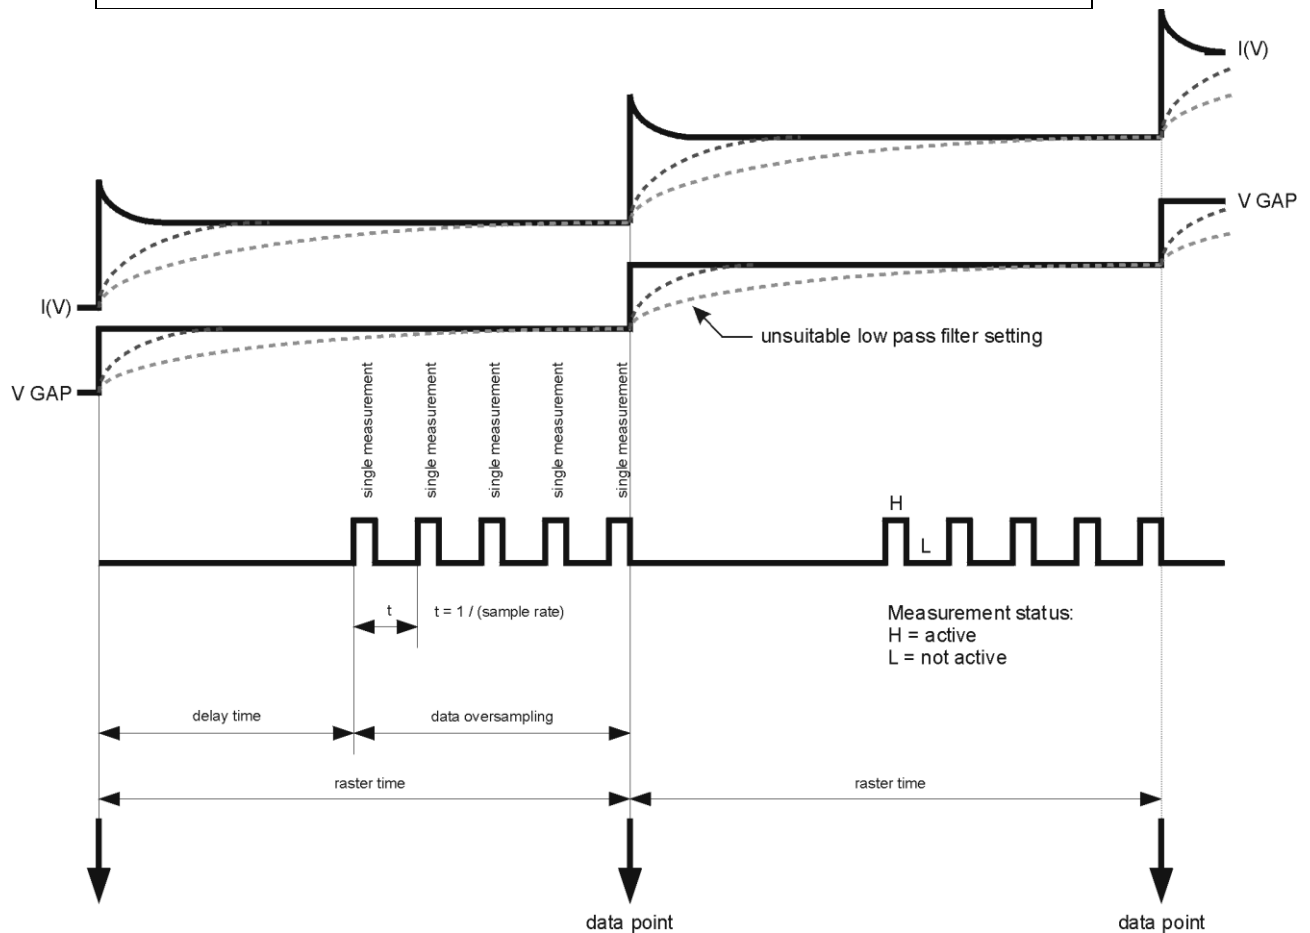

Figure 86. Spectroscopy data acquisition and oversampling.
- After T2 the first data point is acquired after a delay time (initial delay) and with the specified oversampling, see figure 86 on page 87. The **initial delay** ensures a stable tunnelling current after the gap voltage change.
- The next data point is taken after one raster time, see also figure 86 on page 87. Consequently, the raster time must be longer than the combination of initial delay and data acquisition time, i.e.